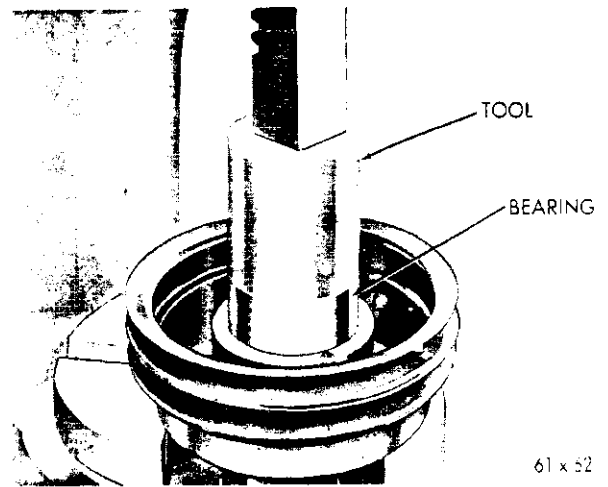

Fig. 40—Installing a New Bearing in the Pulley Assembly
(1) Install the pulley assembly with the pulley side up on an arbor press and insert a new bearing into the bore. Install the Tool C-3807 against the bearing and press into position.
(2) Install the pulley assembly with pulley side facing down on Tool C-3807.
(3) Start the drive hub into the inner bearing race, and press the hub into position with an arbor press. (See Fig. 40).
(4) Install bearing snap ring and hub snap ring.